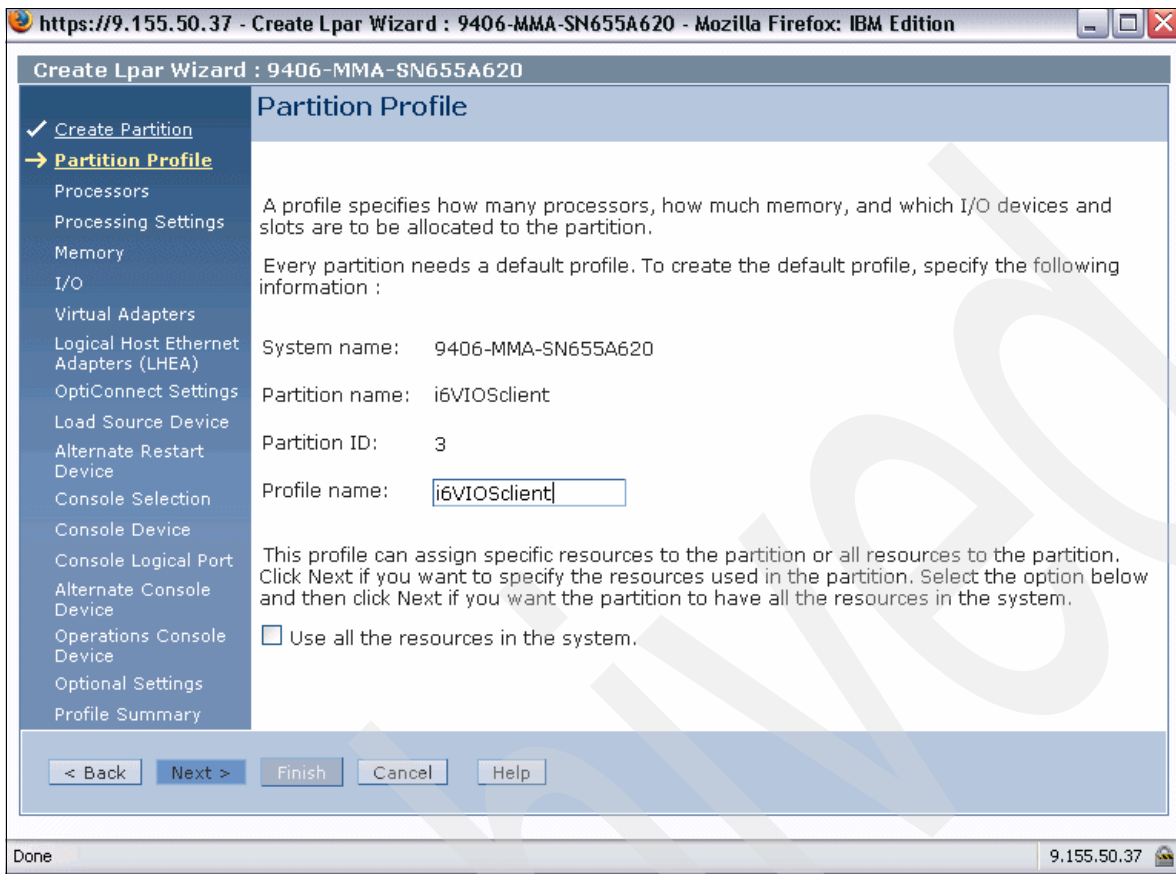

Figure 6-23 Create LPAR Partition Profile dialog
3. We enter a profile name and click **Next** to proceed, as shown in Figure 6-23.